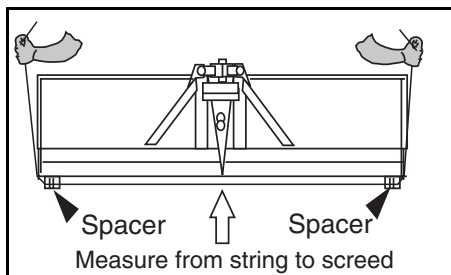

Figure 3 - 18 String Line Location
- 3) Measure the distance from the string line to the screed bottom next to each spacer and in the center of the screed (Figure 3 - 18).